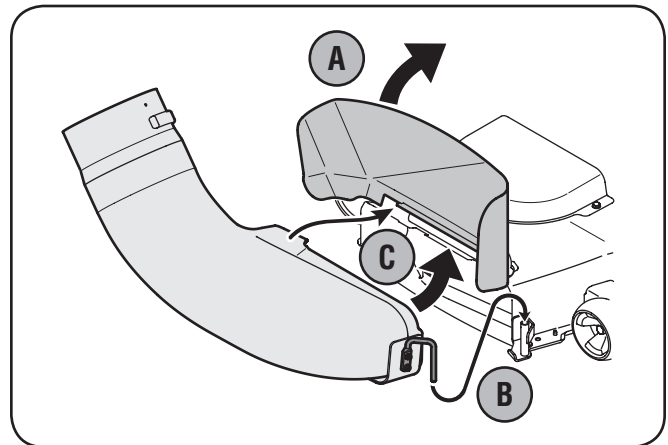

Figure 4-20
3. Raise the chute deflector (A in Fig. 4-20) on the deck and hold it while you position the discharge chute over the chute opening.
4. Insert the hinge pin of the discharge chute into the tube on the chute stop bracket. See B in Fig. 4-20.
5. Rotate the chute around the deck so that its front edge fits snugly into the deck opening. Lower the chute deflector slowly (C in Fig. 4-20).